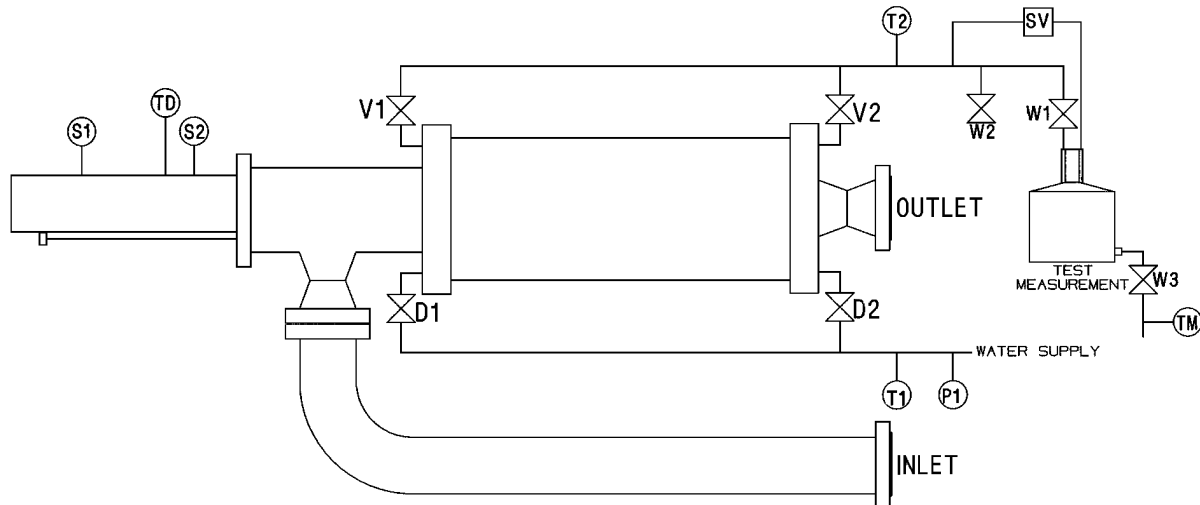

Figure 4-4. Water Draw System
- A plumbing setup as shown in Figure 4-4. Check all valves and any threaded connections for leaks prior to beginning the water draw procedure. The plumbing setup must be leak free.
#### 4.2.2 Water Draw Procedure: (Reference Figure 4-4 and notes on page 4-14)
2. Assemble the water draw plumbing system. See Figure 4-4. All connections must be leak-free to assure proper operation. It is recommended that thread sealant be used on all pipe connections. Pipe sizing should be equal to or greater than the size of the vent and drain connections (V1, V2, D1, D2) that are supplied on the prover.